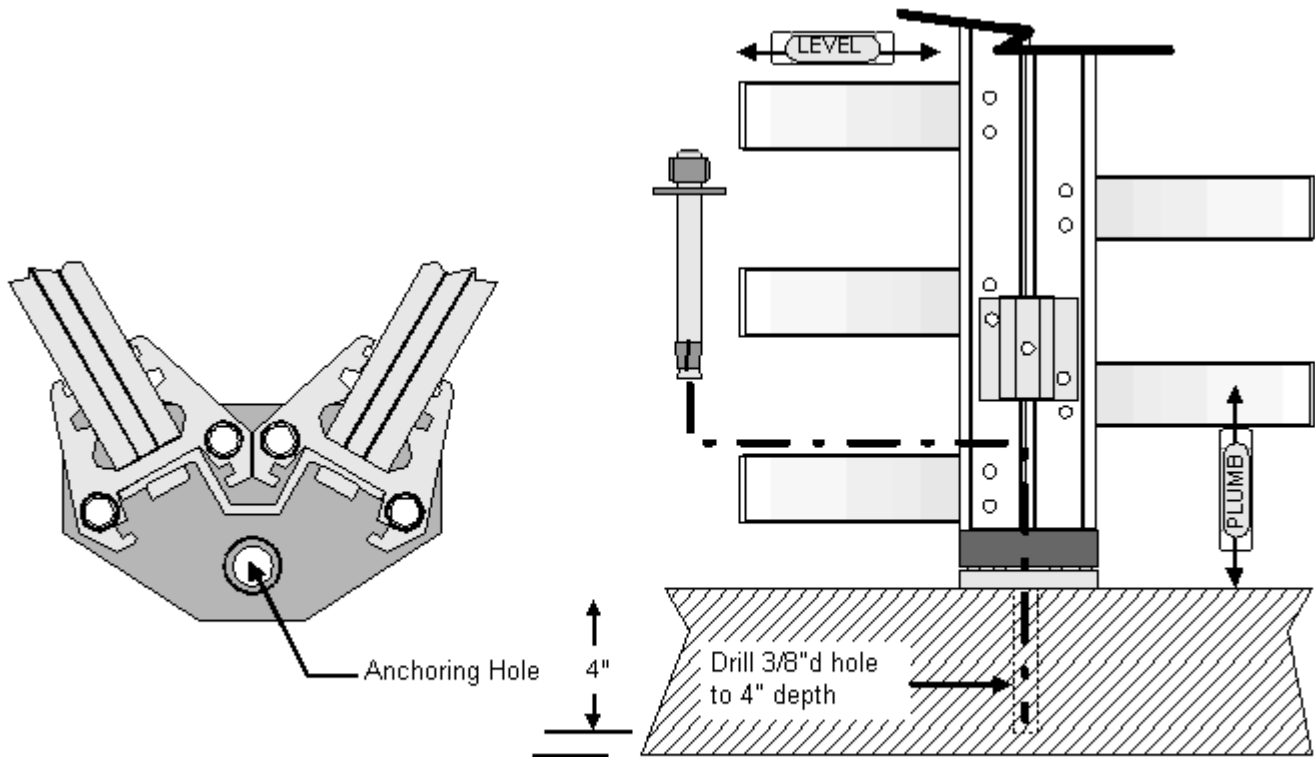

Figure 13 Anchor Barrier
- Drill and set anchor bolts as shown in Figure 13 below.